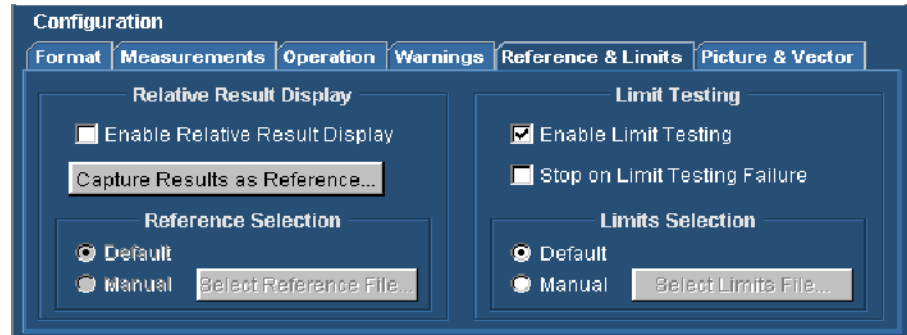

Figure 3-15: Enabling limit testing
5. Select **Enable Limit Testing**. See Figure 3-15.